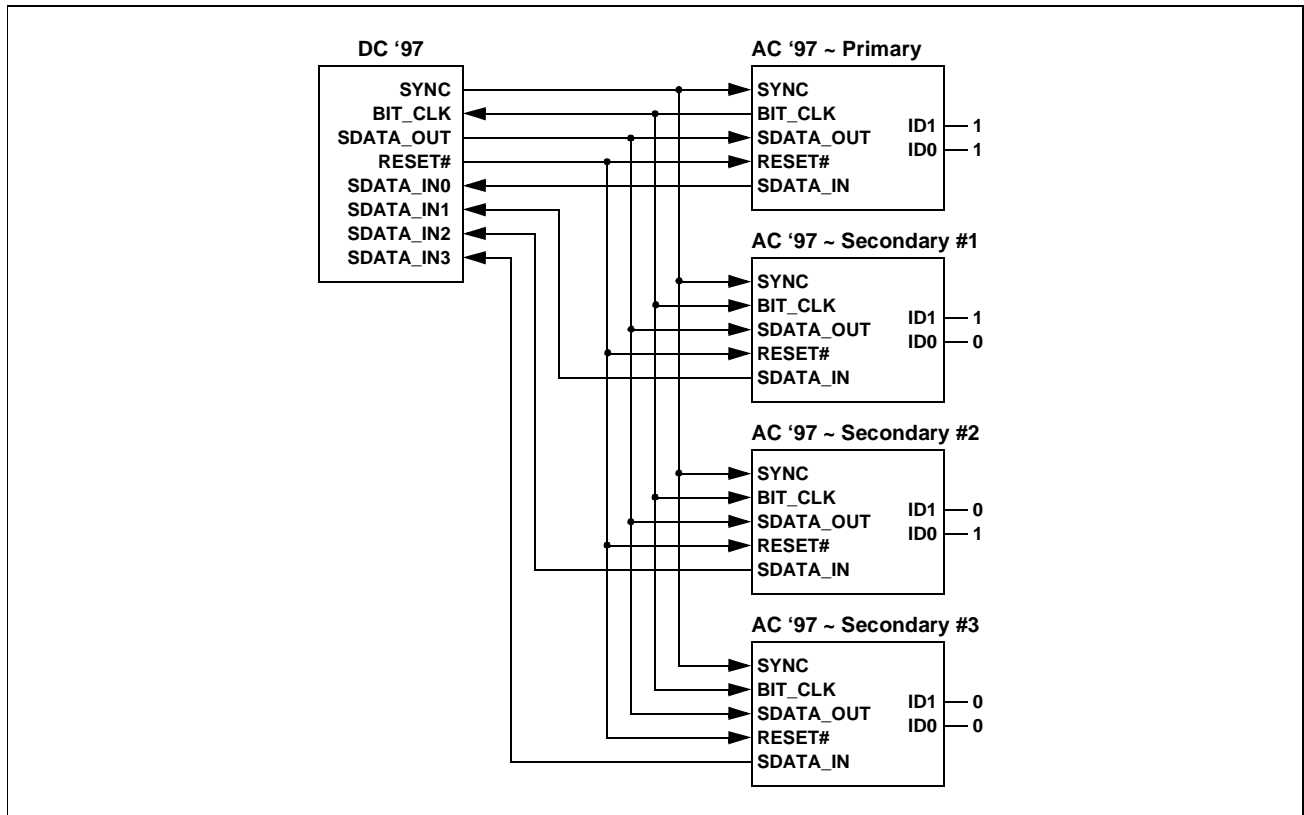

Figure 11. Multiple Codec Example
**Note:** The state of the ID pins is reported in reverse polarity on register 28h, bits D15 and D14. If you use Table 16 to configure the codec via pins 45 and 46, use the inverse values. Please, refer to **Figure 11** on page 25. Digital Controllers may support up to four DATA\_IN pins to support one primary and three secondary codecs. BIT\_CLK is an output for the primary codec and an input pin for the controller and secondary codecs. ID[1:0] pins with internal pull-up resistors defaults codec as primary codec.